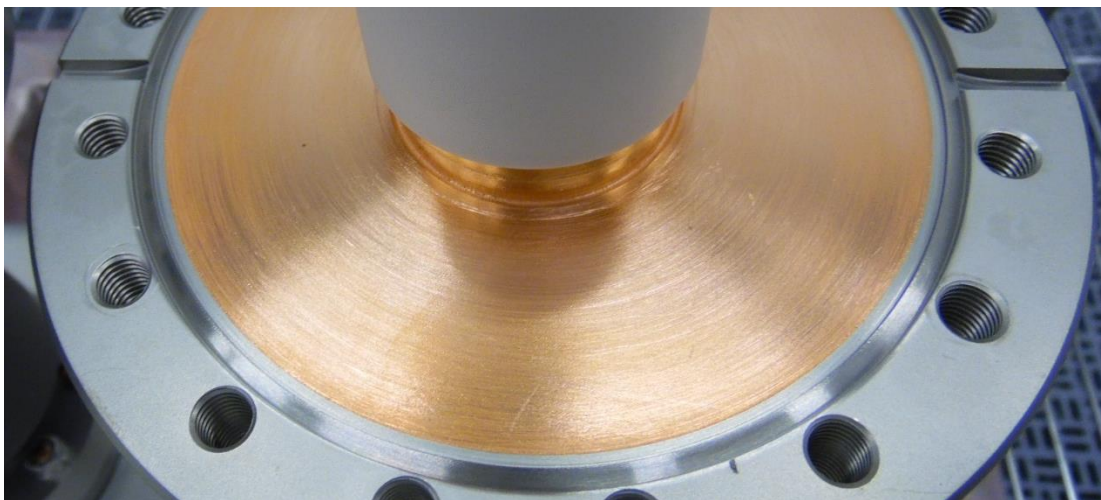

Figure 6.4: Copper plating on CF100 Flange
- 6.3.3. Visually inspect the copper plating on the flange surface (Figure 6.4). Generate an NCR if there are any pits, blisters, or flaking copper. Generate an NCR if there is any Viton residue on the copper.